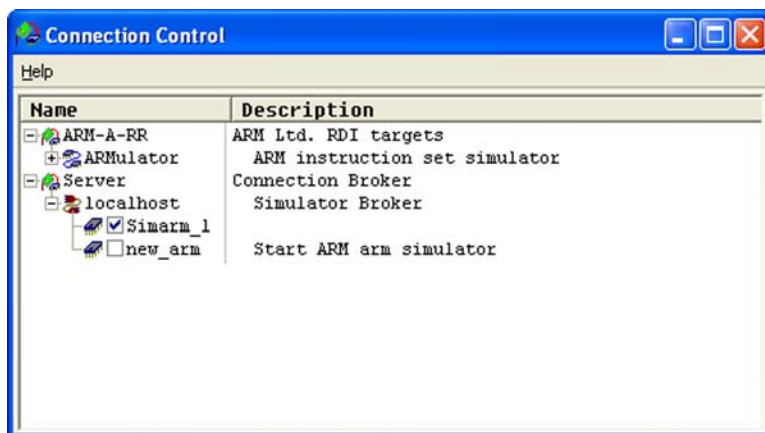

Figure 5-62. RealView Connection Control with Simulation Object
5. Select the **new\_arm** check box under the name tree. A new simulation object, Simarm\_1, will be instantiated, as shown in Figure 5-62.